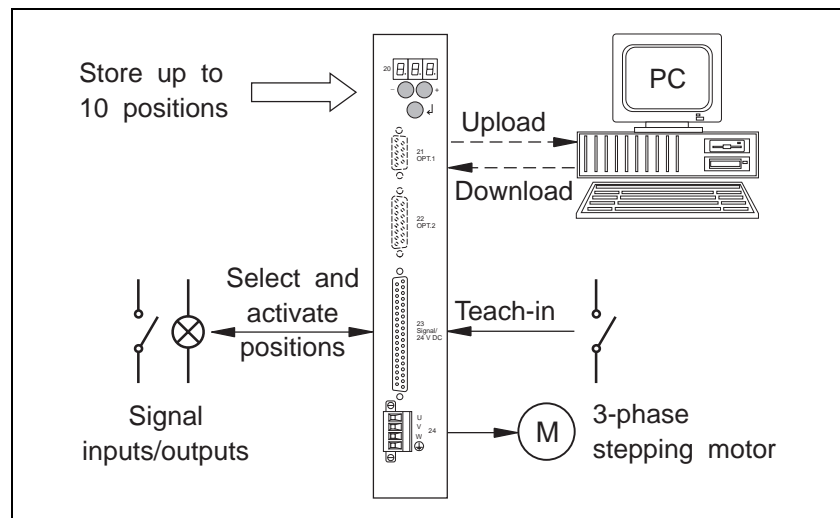

Fig. 1-3 Position processing
*Position processing* In this mode (fig. 1-3), up to ten stored positions can be selected and approached via inputs or front panel control. The positions can be input via teach-in, via the front panel or via download through the serial interface and are stored in the same locations in the controller. Positioning can be effected with absolute values (relative to a reference point) or with incremental values (relative to the current position). The system of either absolute or incremental dimensions is selected on the front panel (P21 parameter). Before executing a positioning operation in the system of absolute dimensions, a reference movement must be executed towards a limit switch or a reference switch (see chapter 1.2.3). Alternatively, the current position can be set as the reference position (current position = 0).